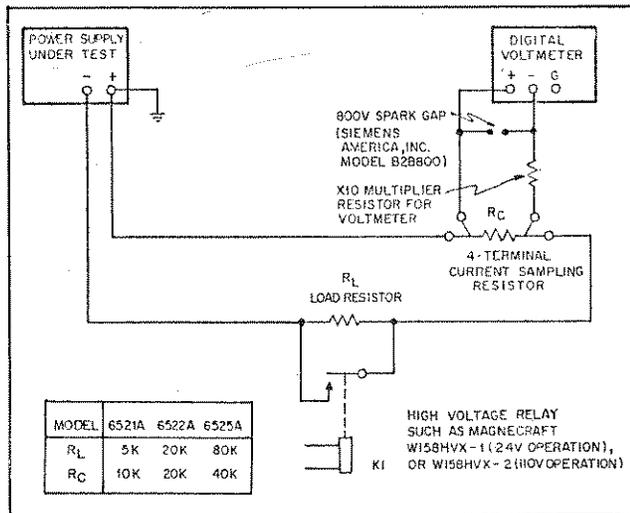

Figure 5-4. Constant-Current Test Setup Diagram
a. Connect test setup shown in Figure 5-4.
- Connect test setup shown in Figure 5-4.
- Connect test setup shown in Figure 5-4. Close shorting switch.
- Connect test setup shown in Figure 5-4 except replace the differential voltmeter with the AC voltmeter.